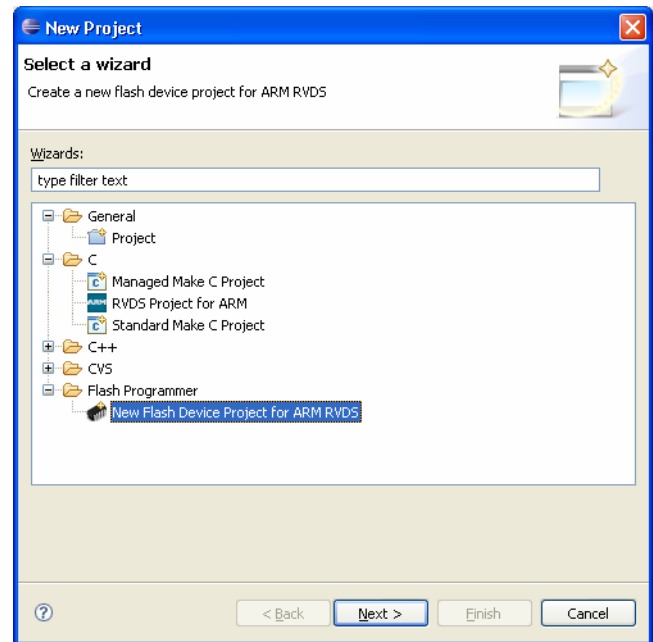

Figure 1 The New Project Wizard
2. Select **New Flash Device Project for ARM RVDS** in the **Flash Programmer** category in the list of project types (see Figure 1), and click **Next**.